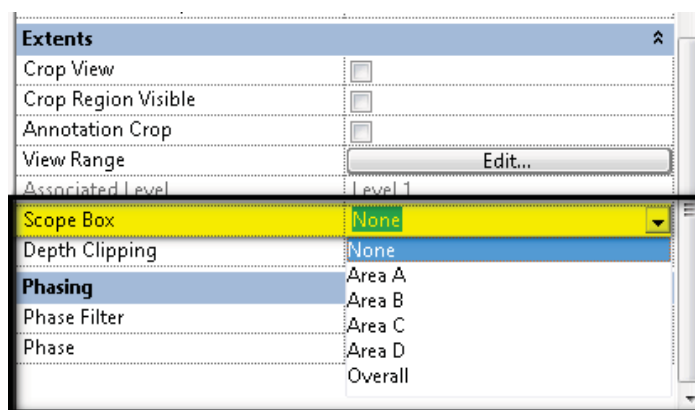

Figure 1 - Associating the Scope Boxes with the views
Step 4: Create one more scope box for overall floor plans (refer to Figure 1)